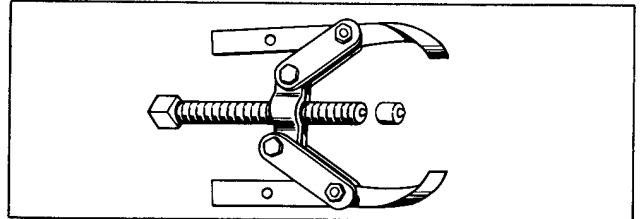

Figure 4-26. 95635-46 All Purpose Claw Puller
Clamp mainshaft in copper-faced vise jaws. Bend ear of lock washer (5) away from flat of nut (4) and remove nut and washer. Bearing (6) and gear (8) may then be removed with the All Purpose Claw Puller, Part No. 95635-46 (See Figure 4-26) or an arbor press. If using claw puller, insert center adapter, Part No. 95636-46 (See Figure 4-26) into end of shaft to prevent damage to shaft. Bearing and gear are removed separately.